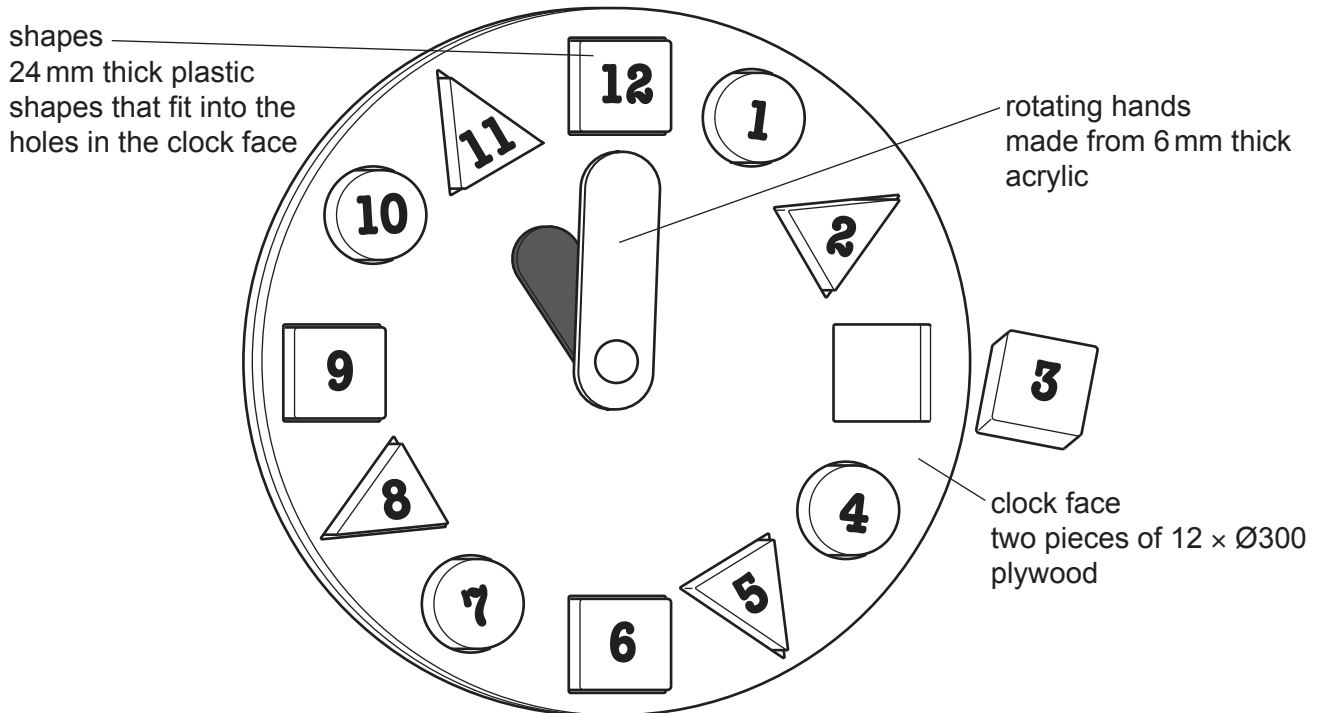

Fig. 1.1
- 1 Fig. 1.1 gives details of a teaching aid which is to be made in a school workshop.